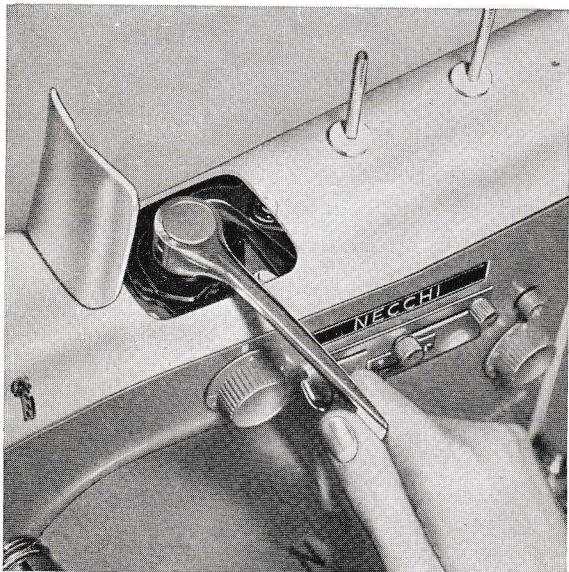

Fig. 2
*Cams to be used: Permanent three cam group, fitted with handle, to be inserted on the driver pin (fig. 2).*